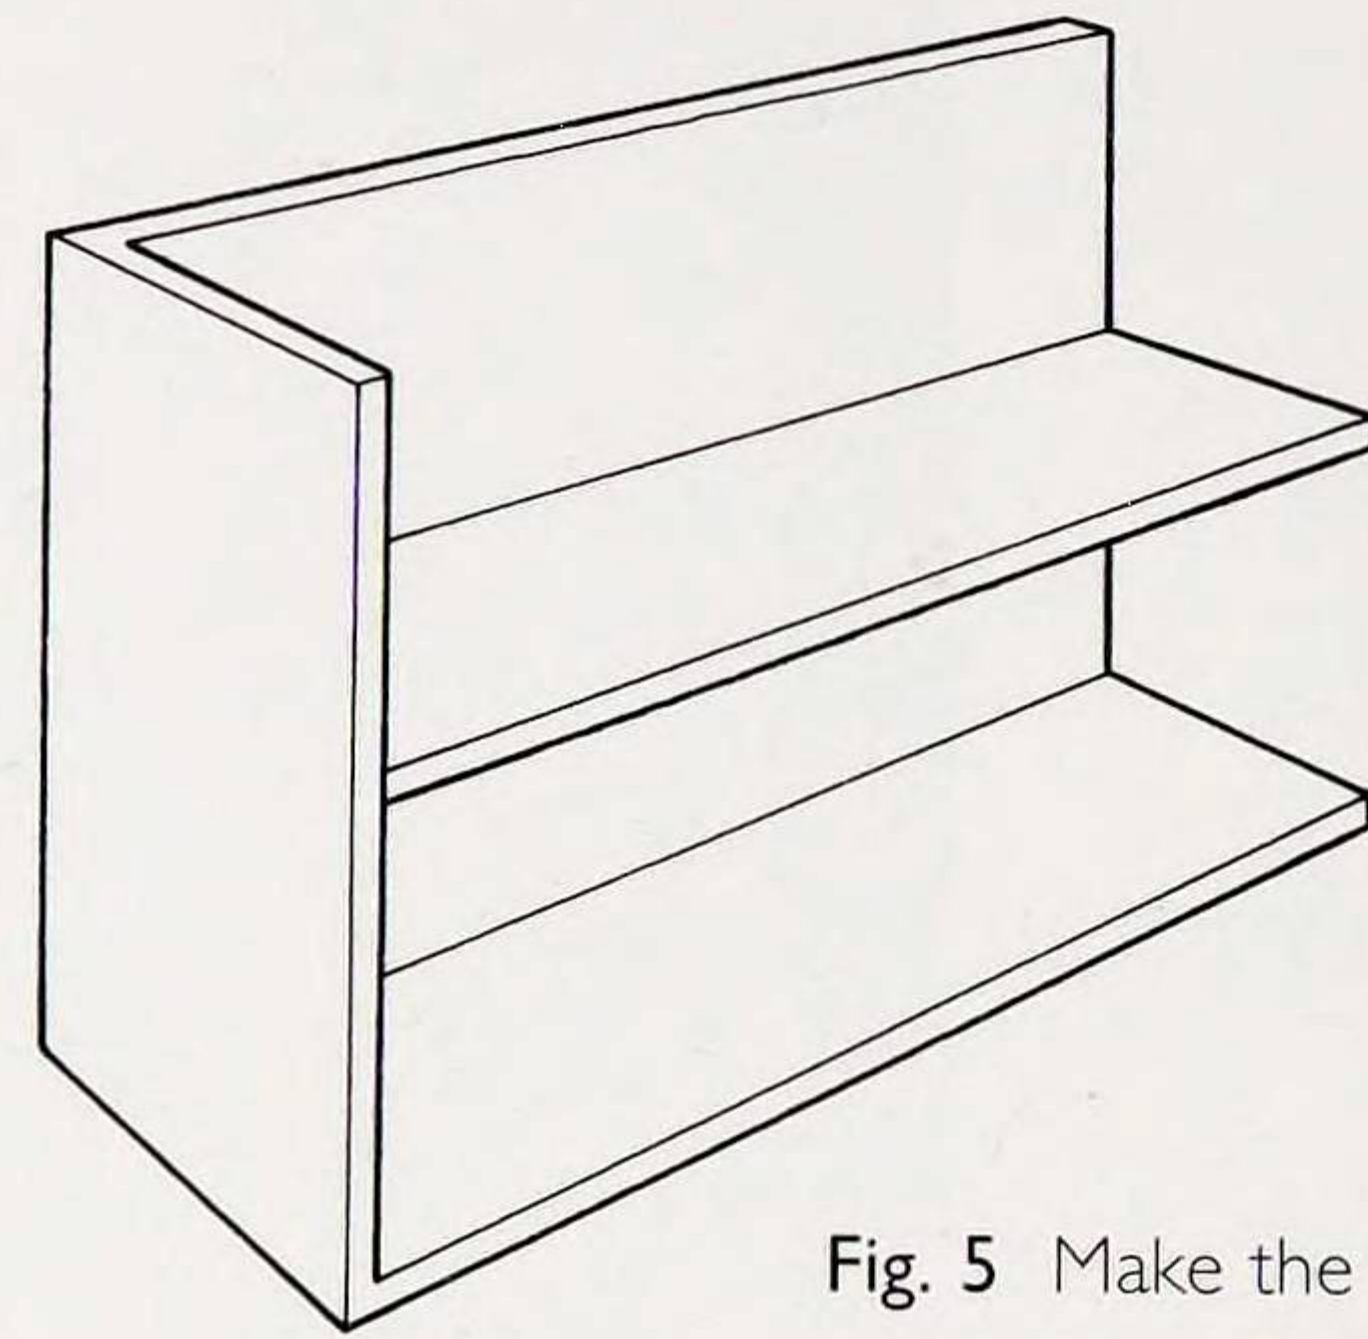

Fig. 5 Make the two side doors
5. Make the two side doors, remembering that one is right-handed and the other left-handed (Fig. 5). The shelves for video storage can be fitted in position, and they will reinforce and strengthen the L shape of these doors.